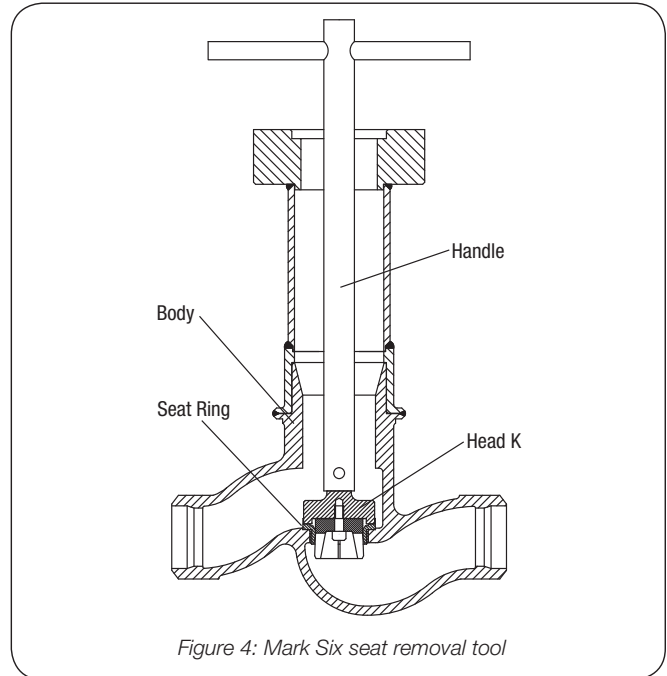

Figure 4: Mark Six seat removal tool
**NOTE:** Flats are machined on the tool, so a wrench may be used to turn the seat ring. Assembly tool supports are sometimes needed to keep the assembly tool aligned properly in the seat ring. See Figure 4.